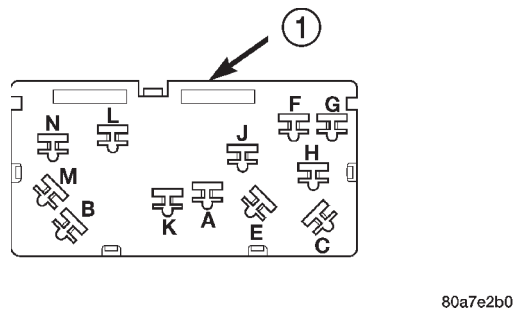

Fig. 1 Seat Motor Switch Connector
- (1) Remove power seat switch from seat.
- (2) Disconnect wire harness connector.
- (3) Check Pin A for battery voltage and Pin B for ground.
- (4) To test the seat motors, refer to the (Fig. 1), and verify proper seat responses. Using two jumper wires, connect one to a battery supply and the second to a ground. Connect the other ends to the seat wire harness connector as described in the Seat Connector table (Fig. 1).